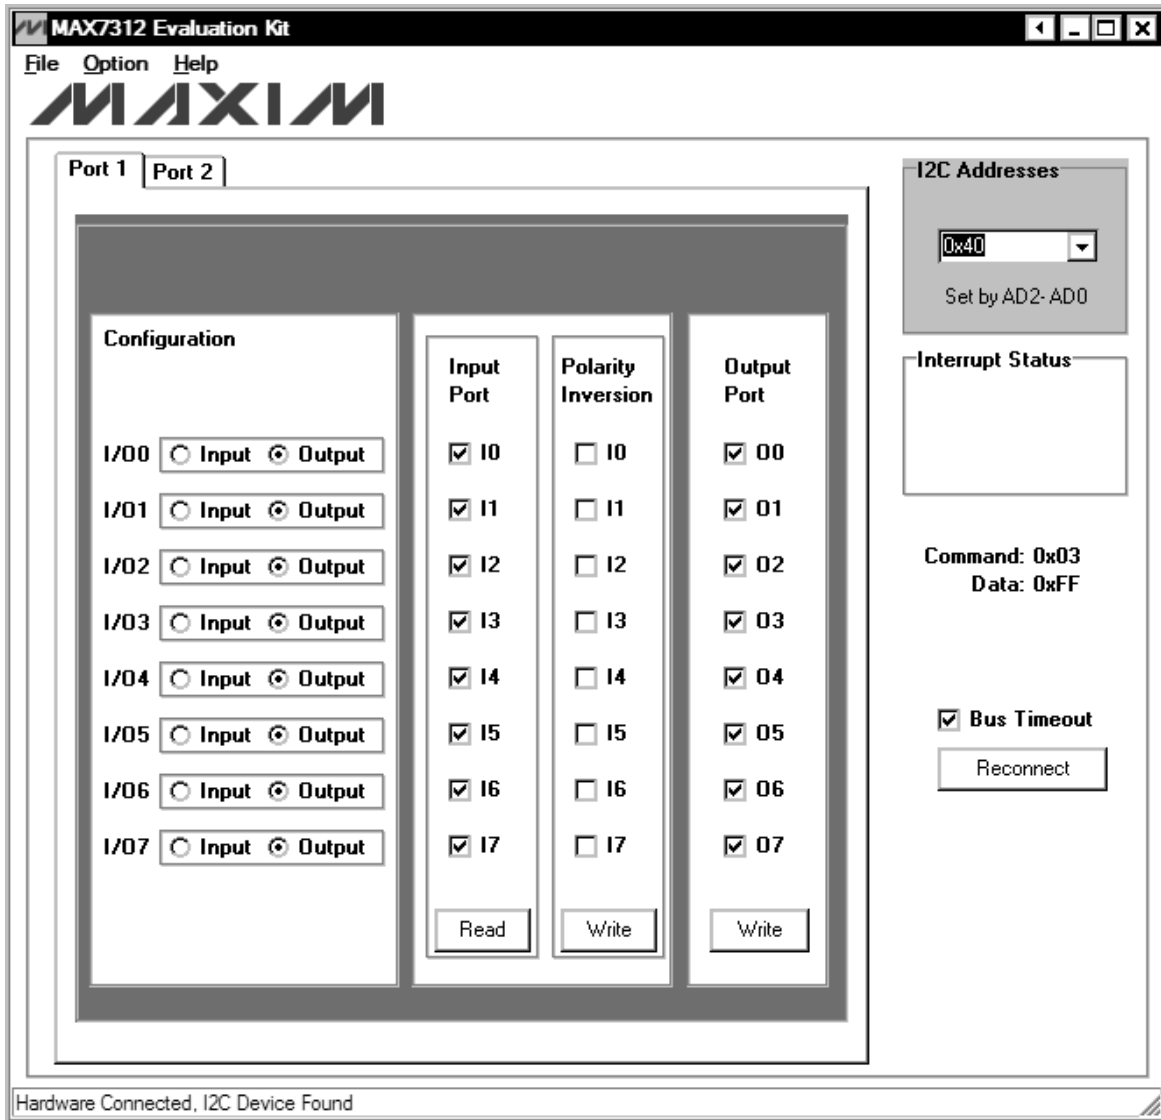

Figure 1. MAX7312 EV Kit Software Main Window (Port 1 Tab)
- 6) Start the MAX7312 EV kit software by opening its icon in the **Start | Programs** menu. The EV kit software main window appears, as shown in Figure 1.
To start the MAX7312 EV kit software, double-click on the MAX7312 EV kit icon that is created during installation. The GUI main window appears, as shown in Figure 1.
The **Port 1** tab sheet shown in Figure 1 controls all of the registers for **I/O0–I/O7** of the MAX7312. In the **Configuration** group box, the user can set the I/O port